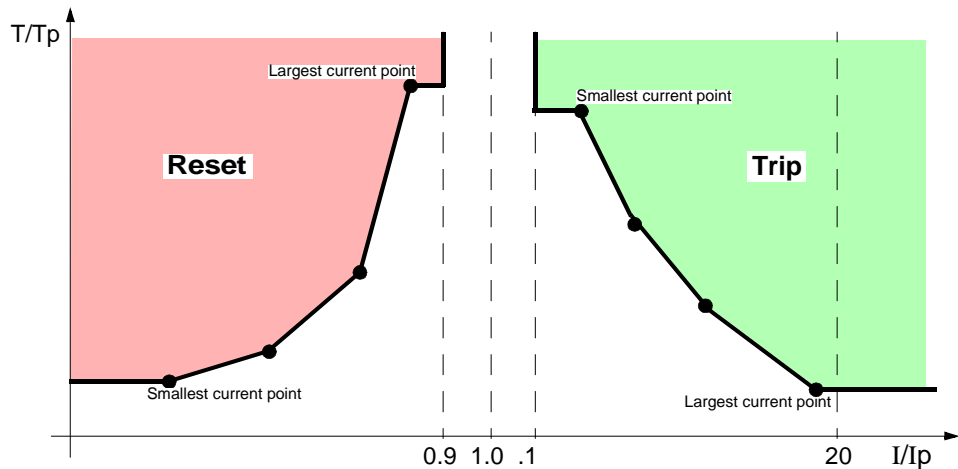

Figure 2-70 User specified characteristic — example
- Currents smaller than the current value of the *smallest* characteristic point do not lead to a prolongation of the tripping time. The pickup characteristic (see Figure 2-70, right side) goes parallel to the current axis, up to the *smallest* characteristic point.
- Currents greater than the current value of the *greatest* characteristic point do not lead to a reduction of the tripping time. The pickup characteristic (see Figure 2-70, right side) goes parallel to the current axis, beginning with the *greatest* characteristic point.
- Currents greater than the current value of the *greatest* characteristic point do not lead to a prolongation of the dropout time. The dropout characteristic (see Figure 2-70, left side) goes parallel to the current axis, up to the *greatest* characteristic point.
- Currents smaller than the current value of the *smallest* characteristic point do not lead to a reduction of the dropout time. The dropout characteristic (see Figure 2-70, left side) goes parallel to the current axis, beginning with the *smallest* characteristic point.